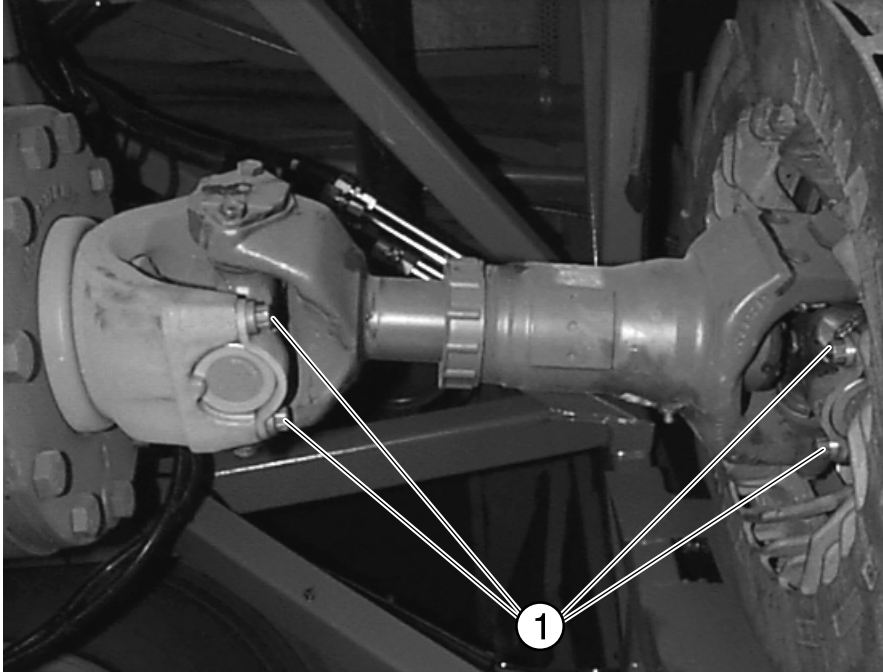

Figure 7 Drive shaft
2. Remove the drive shaft. This is fixed with a total of 8 bolts (and nuts) { **1** } (see Figure 7).
11. Fit the drive shaft on the retarder (see Figure 7). The bolts (and nuts) {1} must be tightened 170 Nm.